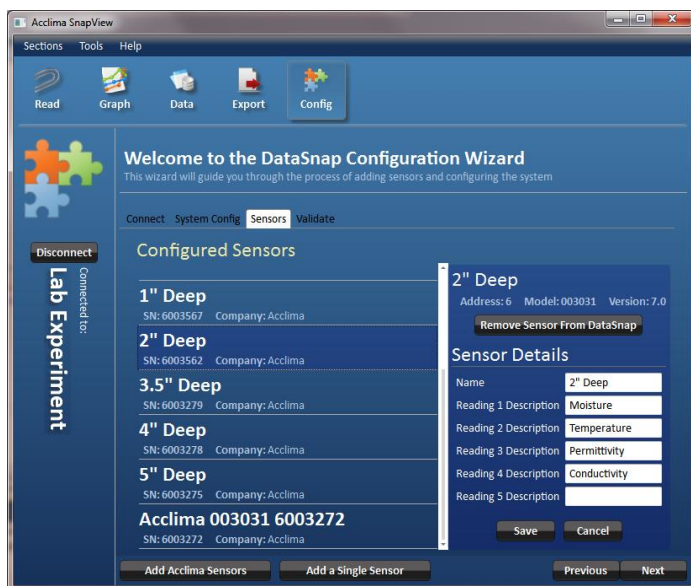

Figure 12 - Adding Sensors
- When connecting many sensors to one DataSnap, a wire splice may be necessary. This can be done by connecting all the red sensor wires to a separate, single wire and then connecting the single new wire to the terminal block in the appropriate position. Follow the same procedure to connect the white and blue wires. The wiring should look like figure 12. When the block is connected to the DataSnap, the location of the colored wires must match the colors on the DataSnap.